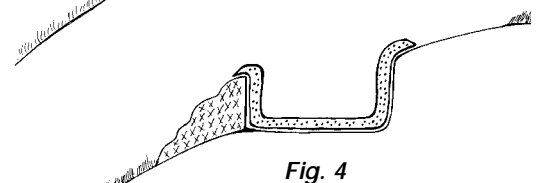

Fig. 4
4. Line the trench with geotechnical fabric from the top of the mound to about two feet above the top of the uphill side of the trench. (See Fig. 4)